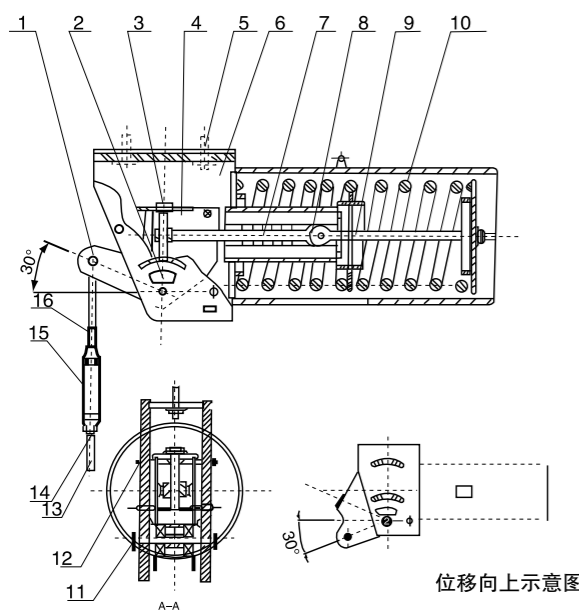

图1 恒力弹簧支吊架典型结构图
3.1 恒力弹簧支吊架主要由圆柱螺旋弹簧、固定框架、回转框架及运动机构、调节装置、弹簧罩等组成。其典型结构如图1。
3.1 The constant force spring support is composed of cylindrical helical spring, fixed frame, rotating frame and motion mechanism, adjusting device and spring cover. Its typical structure is shown in figure 1.